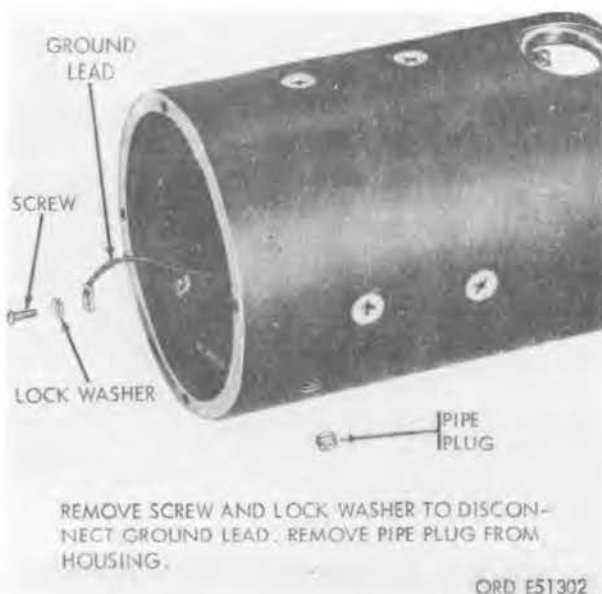

FIGURE 20. DISCONNECTING GROUND LEAD AND REMOVING PIPE PLUG.
b. Refer to figure 20 and disconnect ground lead attaching screw and lock washer and remove pipe plug from housing.
c. Connect field winding ground lead to housing terminal with a No. 8 x 5/16-inch machine screw and No. 8 lock washer, refer to figure 20.
d. Coat pipe plug with blue seal thread sealer and install plug in housing (fig. 20).